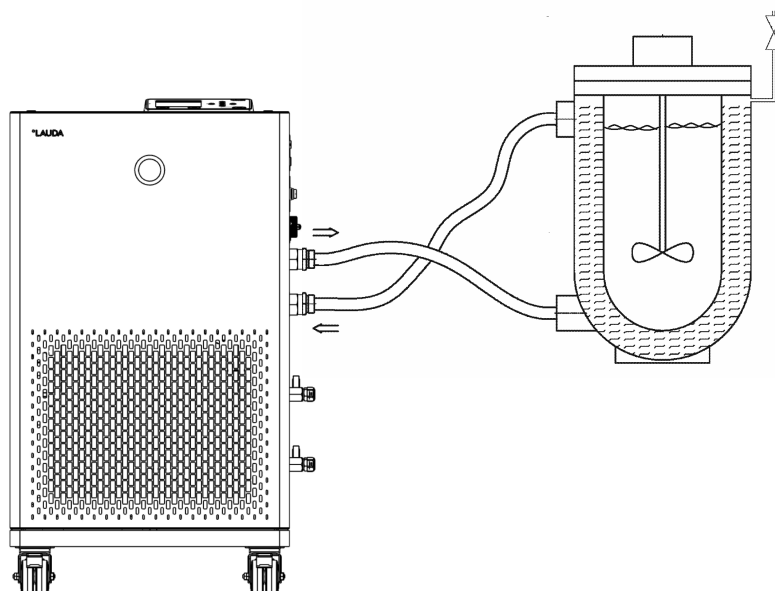

Fig. 14: Connection diagram with vent valve
- Depending on the type of application, a vent valve can significantly simplify the aeration process. The vent valve must be located at the highest point of the circuit (Fig. 14).
The external application must be connected according to the sketch (Fig. 14) so that gas/vapor bubbles can be removed from the system and undisturbed operation is possible. The outflow of the pump must be connected to the lower connection of the application. The return line to the pump connector must be connected to the top connection of the application. The application is thus flowed through from bottom to top.